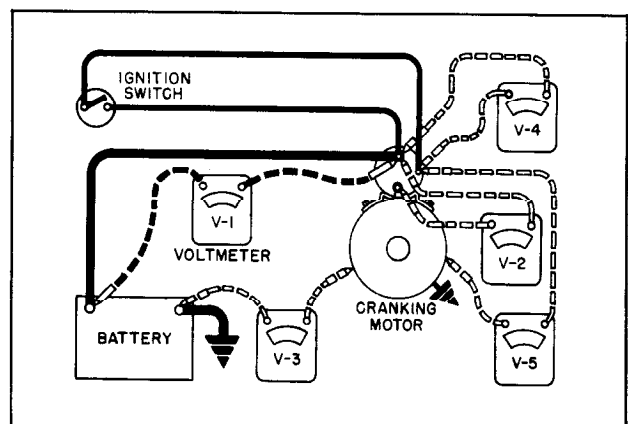

Fig. 13-55 Checking Starting Circuit Resistance
2. Measure the voltage drop (V1) during cranking between the positive battery post and the "BATTERY" terminal of the solenoid. (Fig. 13-55)